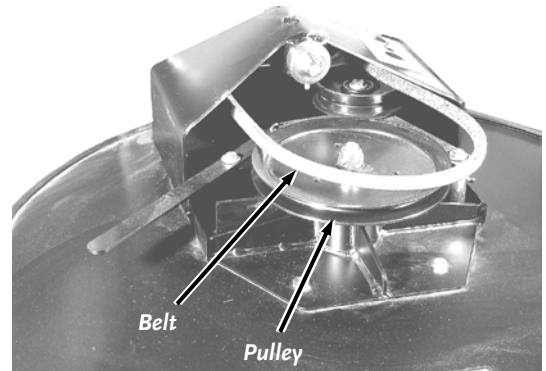
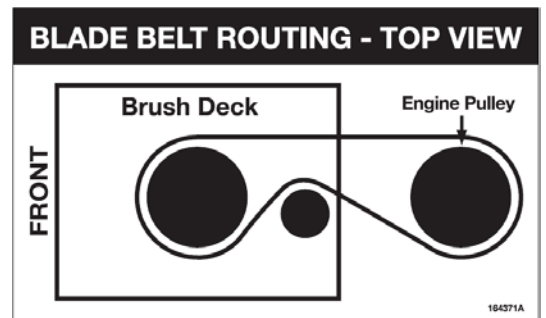
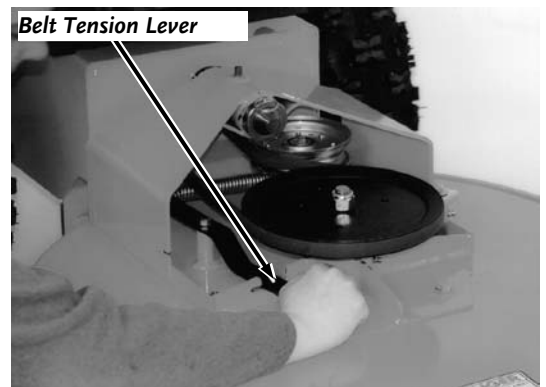

Figure 3
Figure 4
Figure 5
3. Install the Belt on the Pulley and Clutch (**Figure 3**) and route the Belt per the label on the Spindle Housing (**Figure 4**). The Tension Lever may have to be released where the Lever is secured into the slot. (**Figure 5**).
4. Tighten the Belt Tensioner (**Figure 5**) onto the Belt with the Lever secured in the slot.